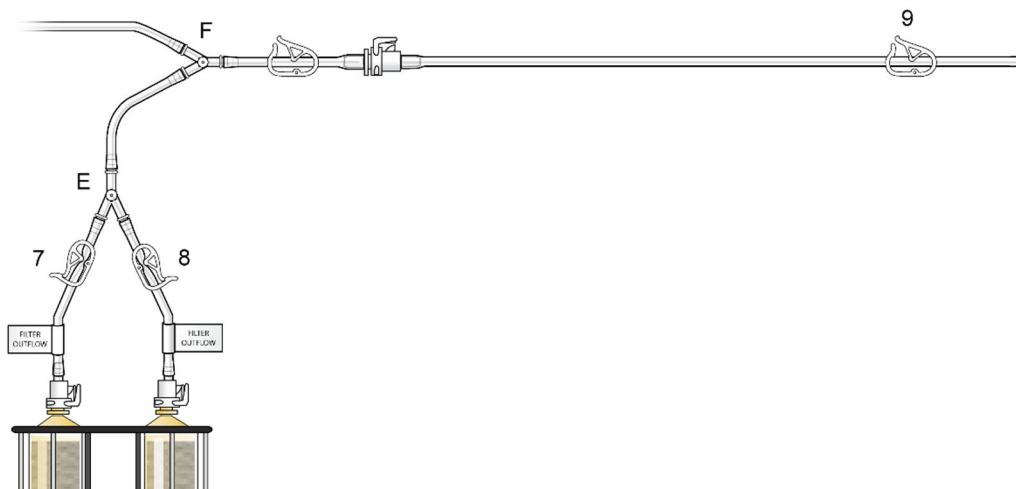

Figure 10
- (i) Remove the “Prime/Flush Line” from its sterile pouch and attach it to the quick connect coupling located proximal to Y-connector “F”, as shown in Figure 10. Place the open end of the “Prime/Flush Line” into the basin for collecting the flushed effluent during filter hydration.